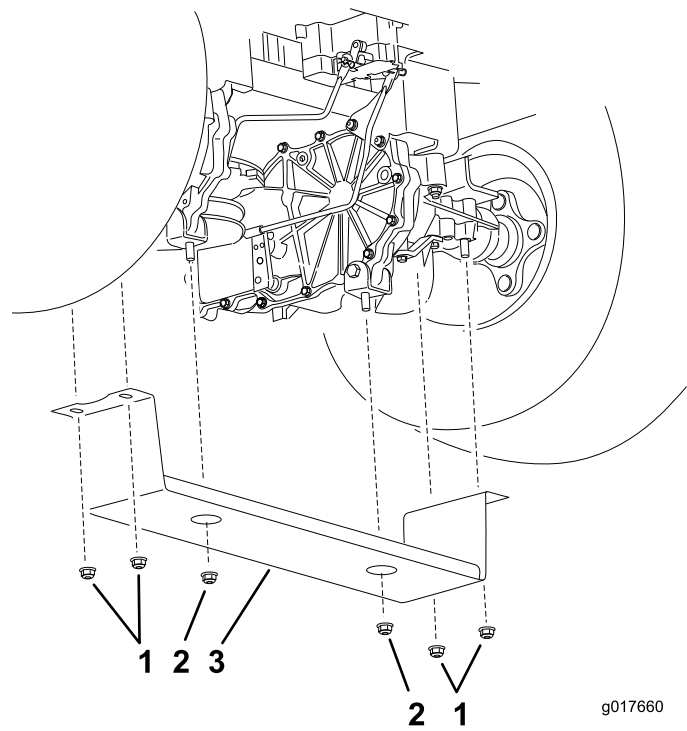

Figure 36
- 3. Remove the nuts holding the transaxle support in place (Figure 36).
8. Install the transaxle guard. Refer to Figure 36 for the correct torque values for the nuts and bolts.